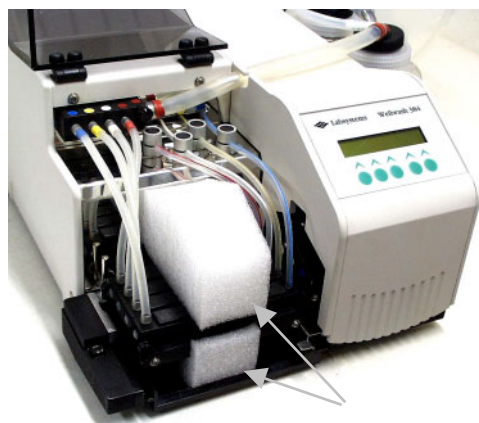

Fig. 5.4 Location of the two wash head protection foams
6. With regard to the wash head, remove the upper foam (*Fig. 5.4*).